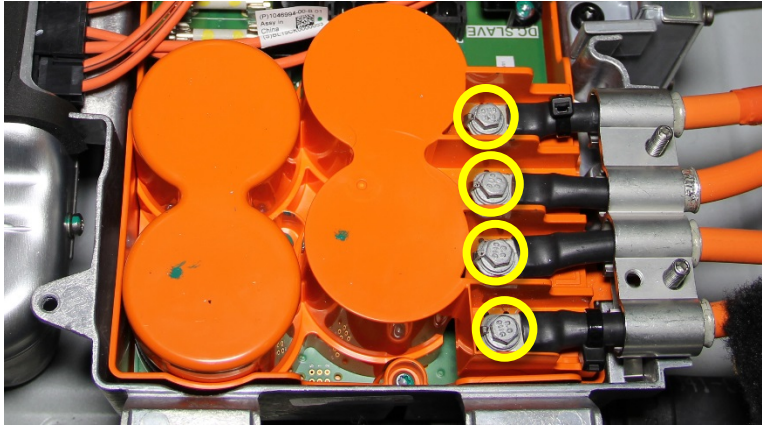

Figure 49
27. Hand-tighten the bolts (x4) that attach the charge port HV harness to the HVJB (Figure 49).